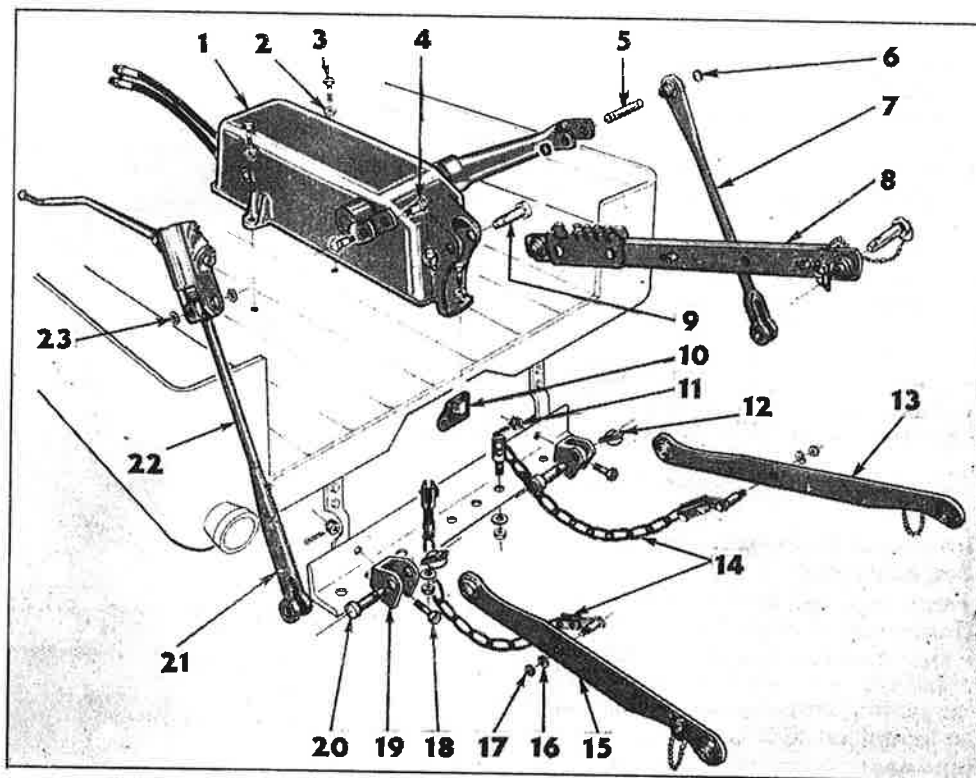

FIG. 331—MAIN HOUSING AND LIFT LINKAGE
To install the lift linkage attach the upper end of the leveling link No. 22, Fig. 331, to the left hand lifting arm of the main housing. Use the (2) special internal type lockwashers No. 23 and the (2) special shoulder bolts No. 4.
Attach the (2) limit chains to the drawbar. Be sure to use the 2nd hole in from each clevis shown in Fig. 331. In this position the limit chains will prevent any swaying of implements while they are being transported.
c. The lower lift links No. 13 and 15, Fig. 331, can now be raised up and down by hand, to see that the linkage is properly assembled and that there is no interference at any of the joints.